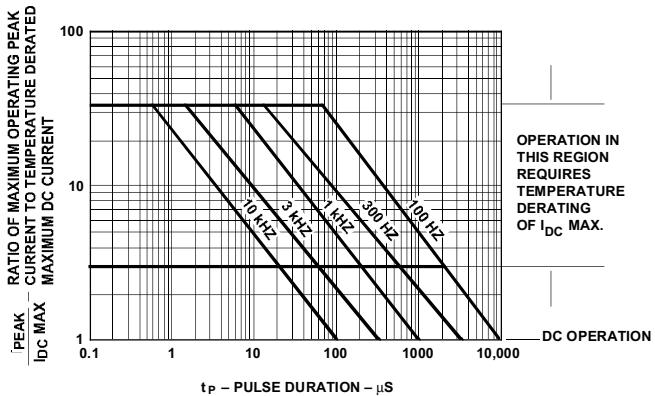

Figure 8. Maximum Allowed Peak Current vs. Pulse Duration – Green.
- 7. See Figure 8 to establish pulsed conditions.